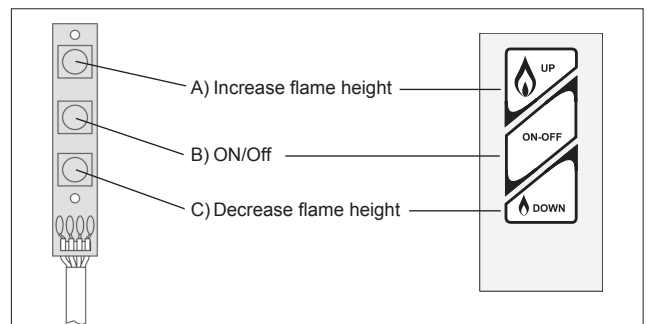

Figure 13: Switch Panel and Wall Switch/Touch Pad
(see figure 13)
- Press and hold button "B" (see figure 13) until a short acoustic signal confirms the start sequence has begun; release button.
Press OFF button on remote handset. Press ON/OFF button on wall switch and touch pad. Press OFF on switch panel (see figure 13 on page 2, button "B").